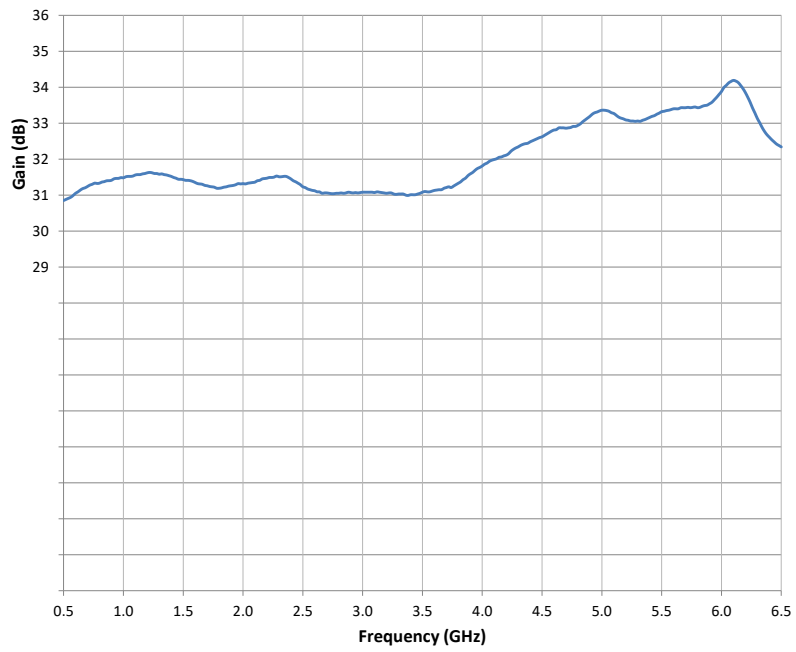

Figure 4-8. Typical A1 Preamplifier Response
8. The typical response for the A1 Preamplifier (at maximum gain setting) is shown in Figure 4-8.